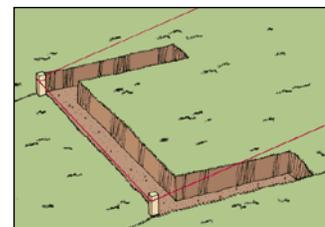

Figure 3
STEP 3. Excavate the first step. Starting at the bottom, dig a trench for the first riser timber (this will be more like a shallow groove in the ground). Next, if using side timbers, dig trenches for the side timbers, which should be long enough to extend 6" passed the next step's riser. Check the make sure the trenches are level (figure 3).